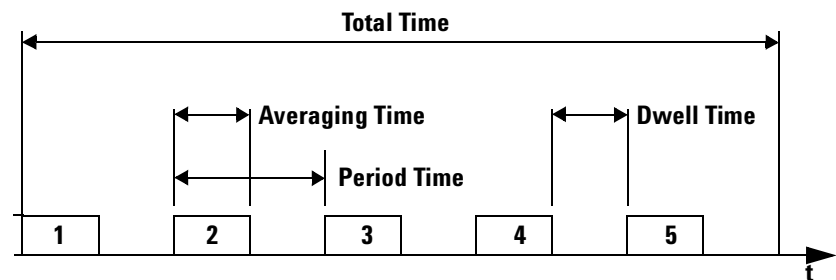

Figure 155 Example Stability Application
- The averaging time is less than the period time, there is a dwell time between the commencement of each power measurement, as shown in Figure 155 . This can happen because: